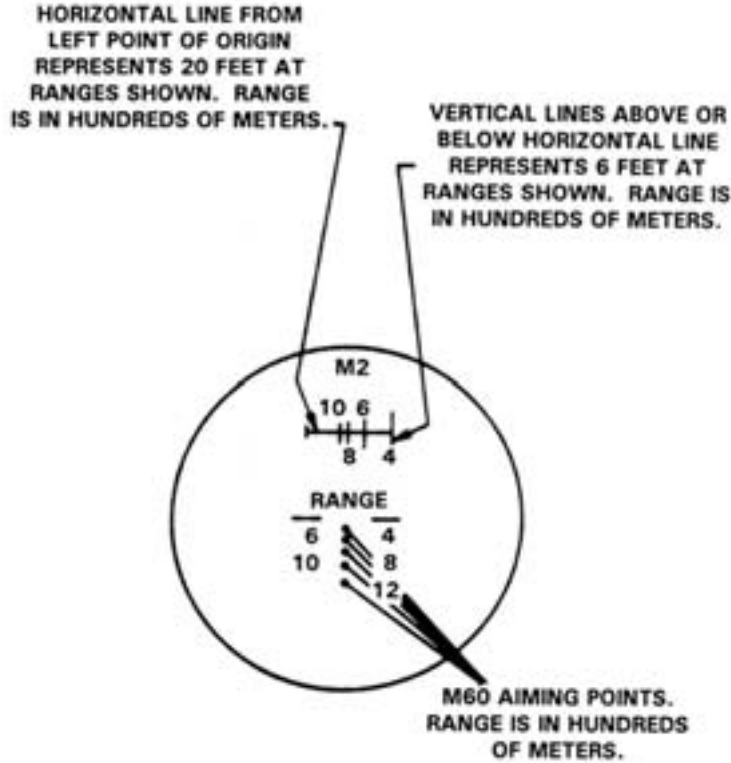

Figure 4-76. M2 .50 Cal and M85 Reticle Pattern.
(1) M2 .50 cal/M85 reticle pattern. The vertical lines at the top of the reticle indicate range in hundreds of meter to a 6-foot tall standing person. Measurement is made from the horizontal line to the top or bottom of the vertical line (see figures 4-76 and 4-77).